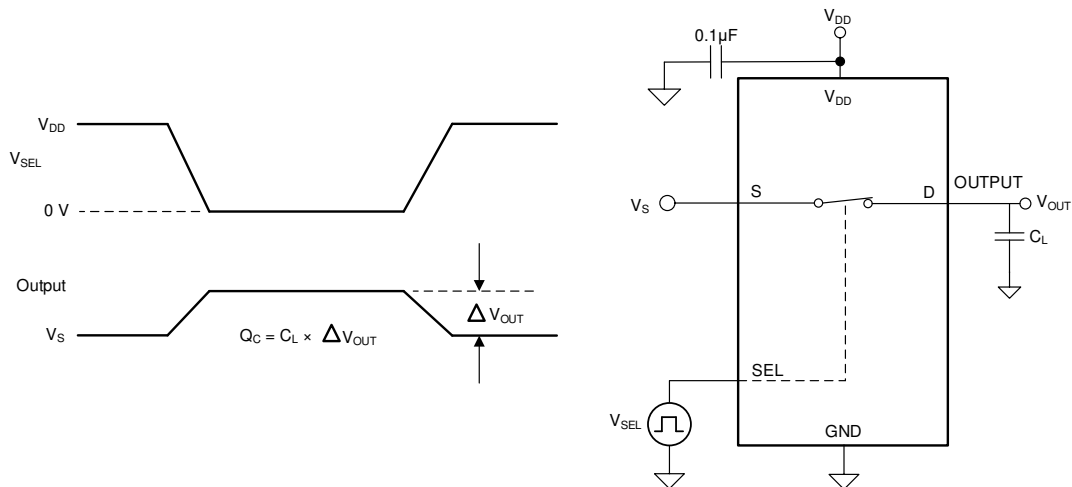

Figure 7-5. Charge-Injection Measurement Setup
The TMUX110x devices have a transmission-gate topology. Any mismatch in capacitance between the NMOS and PMOS transistors results in a charge injected into the drain or source during the falling or rising edge of the gate signal. The amount of charge injected into the source or drain of the device is known as charge injection, and is denoted by the symbol  $Q_C$ . Figure 7-5 shows the setup used to measure charge injection from source (S) to drain (D).